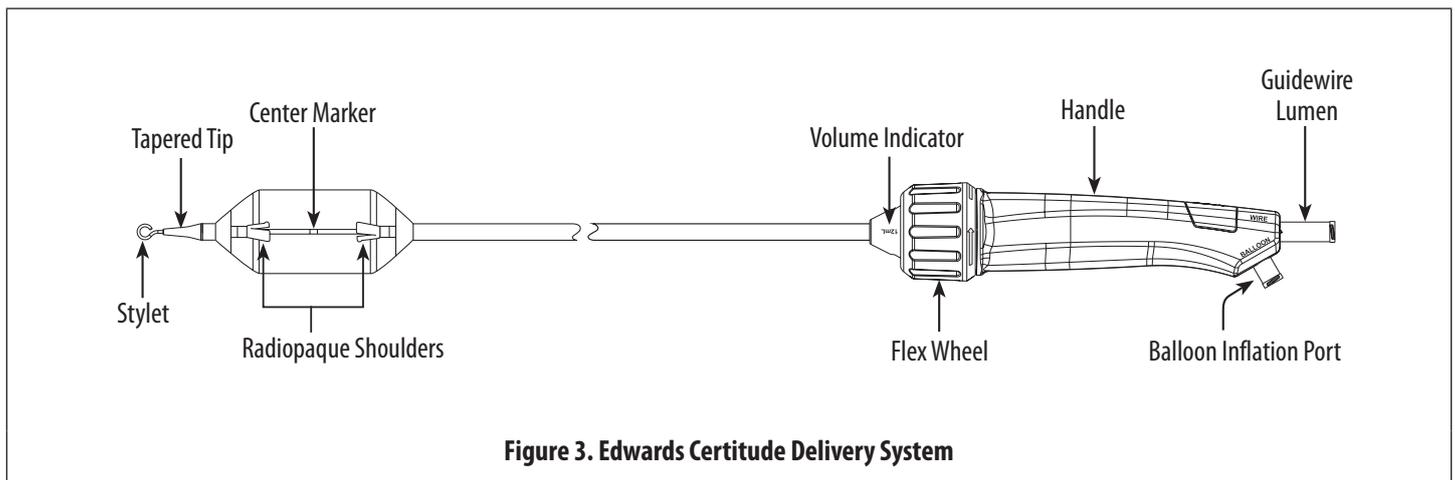

Figure 3. Edwards Certitude Delivery System
• **Edwards Certitude Delivery System (Figure 3)**